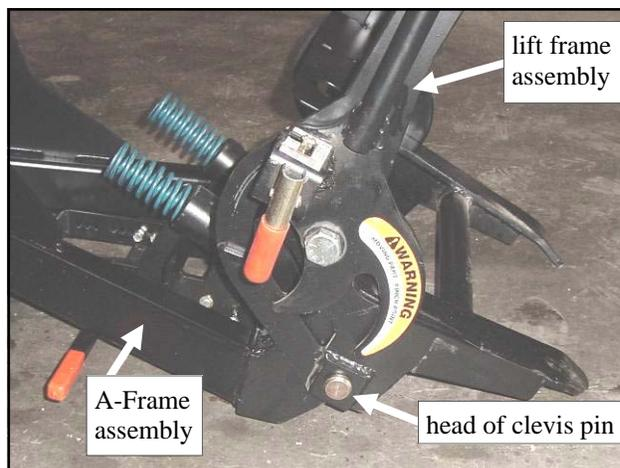
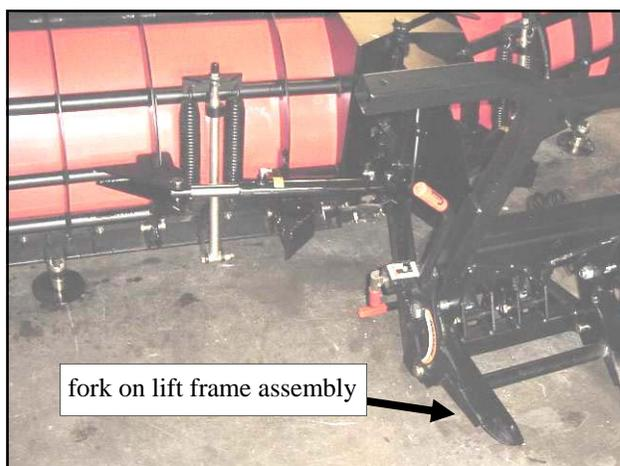

Fig. 4.1 (view of lift frame pinned to A-Frame)
Fig. 4.2 (view of lift frame installed)
4.1 Per fig. 4.1, install the lift frame assembly to the A-Frame assembly oriented as shown. Fig. 4.2 also shows the orientation. With assistance, line up the lower holes in the lift frame assembly to the lowest set of the three hole pattern in the A-Frame assembly. Install two clevis pins (1" diameter x 4" long) so the heads are outboard as shown. Install one of the two large washers (1-3/4" outside diameter) adjacent to the inboard cotter pin hole then install one cotter pin through the hole in the clevis pin. Repeat for the opposite side.
4.2 Per fig. 4.2, temporarily pivot the lift frame assembly backwards and rest the forks of the lift frame assembly against the ground as shown.